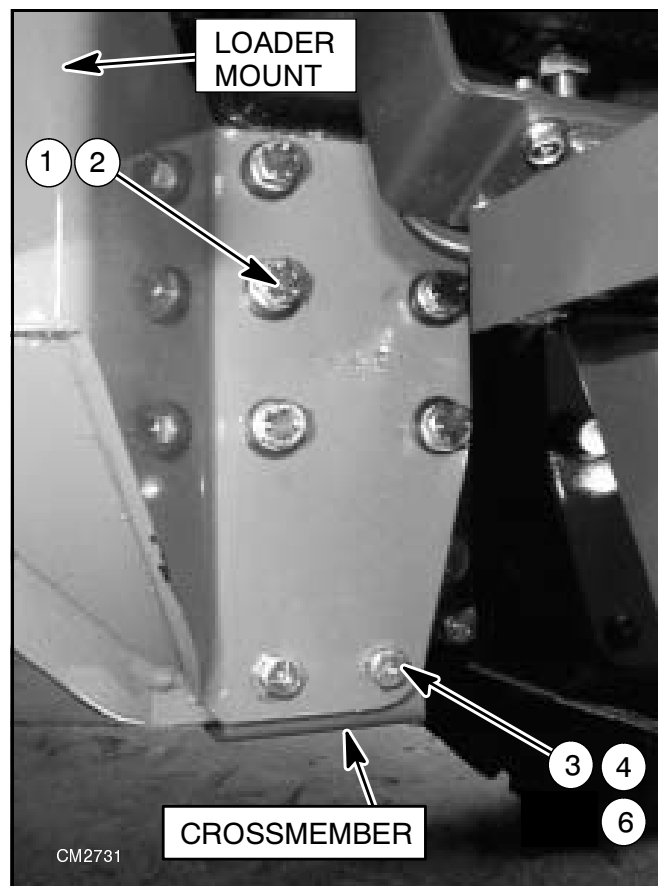

Figure 5 Left Rear Mount Installed
2. Use cap screws (1) and hardened flat washers (2) at tractor clutch housing as shown in Figure 5.
3. Use cap screws (3) and hardened flat washers (4) to attach mount to crossmember.